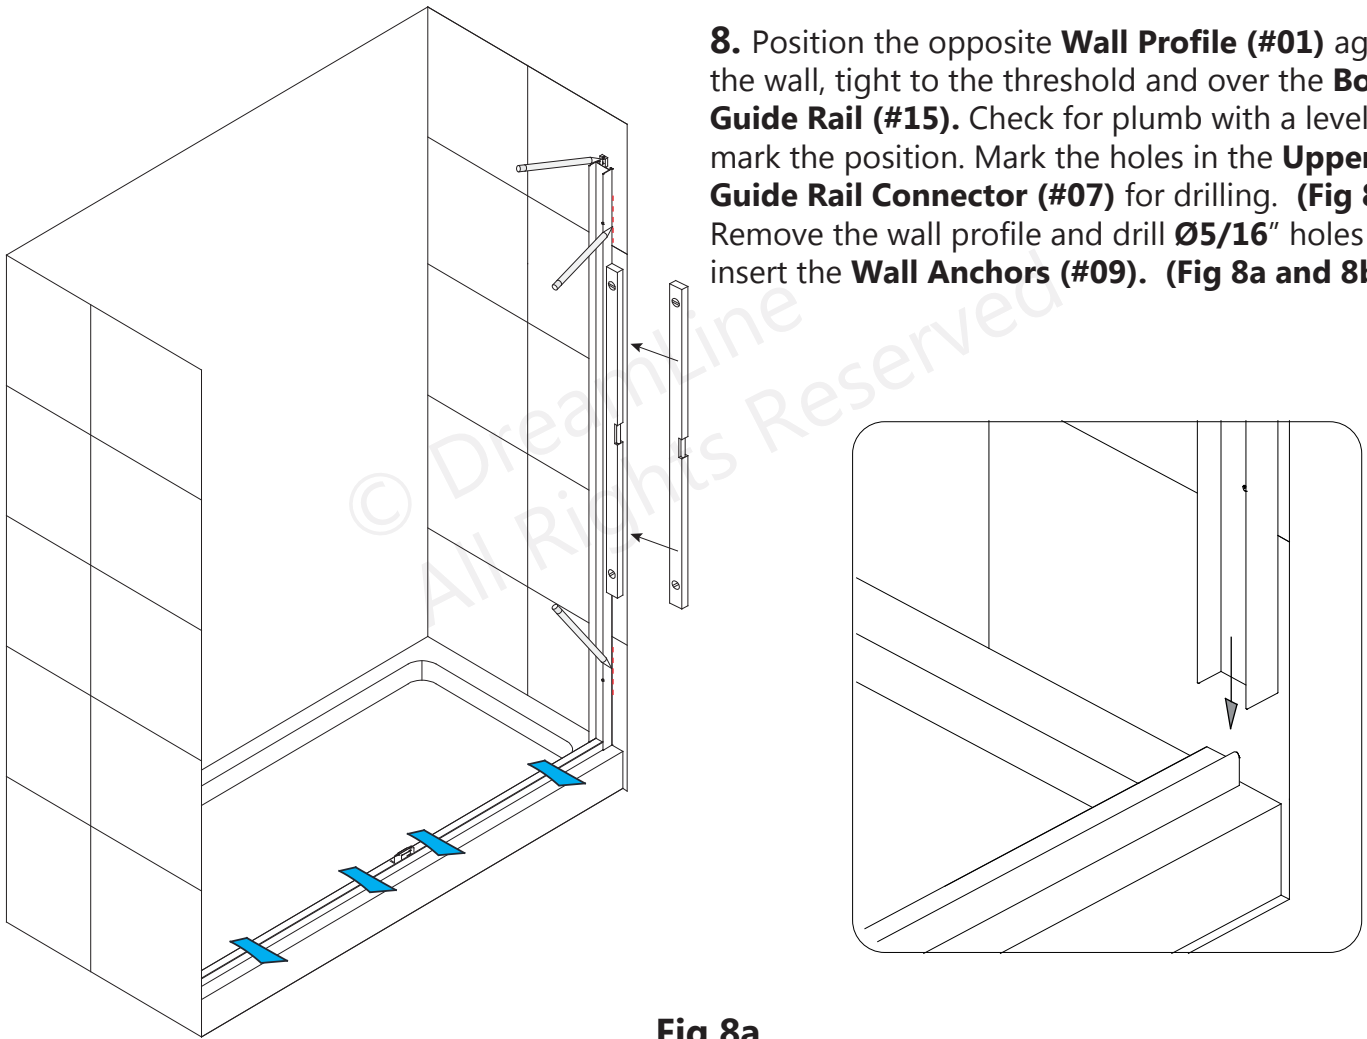
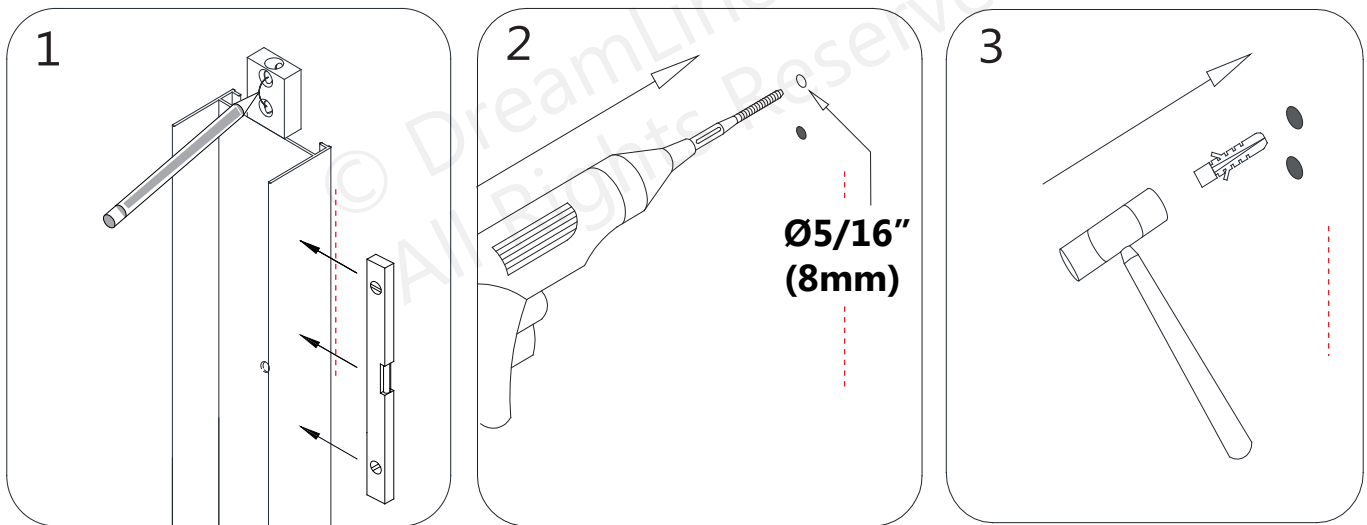

Fig 8a
Fig 8b
8. Position the opposite **Wall Profile (#01)** against the wall, tight to the threshold and over the **Bottom Guide Rail (#15)**. Check for plumb with a level and mark the position. Mark the holes in the **Upper Guide Rail Connector (#07)** for drilling. **(Fig 8b.1)** Remove the wall profile and drill **Ø5/16"** holes and insert the **Wall Anchors (#09)**. **(Fig 8a and 8b)**